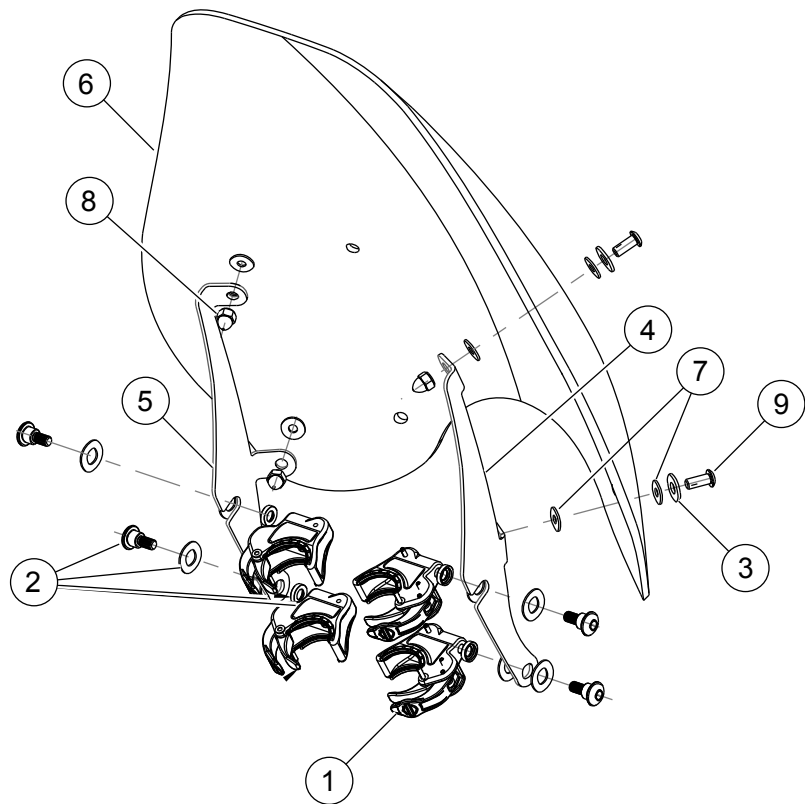

Figure 2. Service Parts: Super Sport Windshield
See Figure 2 and Table 1.
2. See Figure 2. Remove clamp and hardware kits from packaging, and separate similar parts in preparation for assembly.